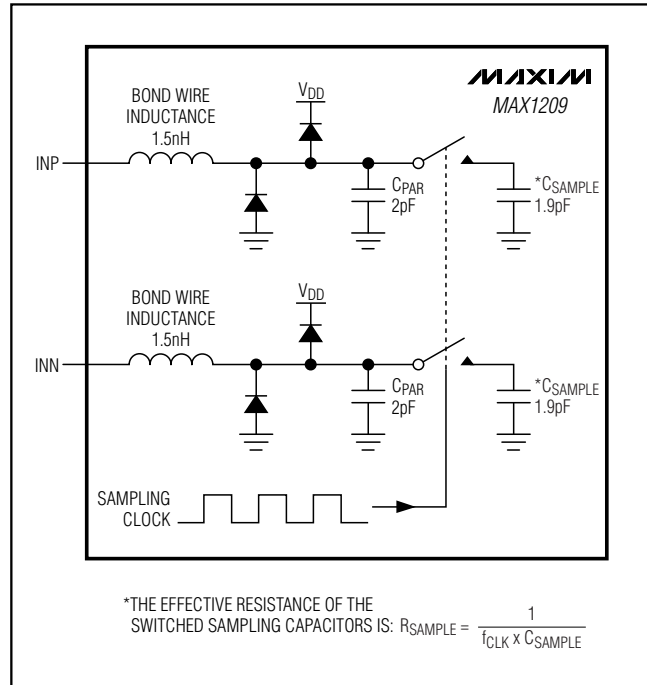
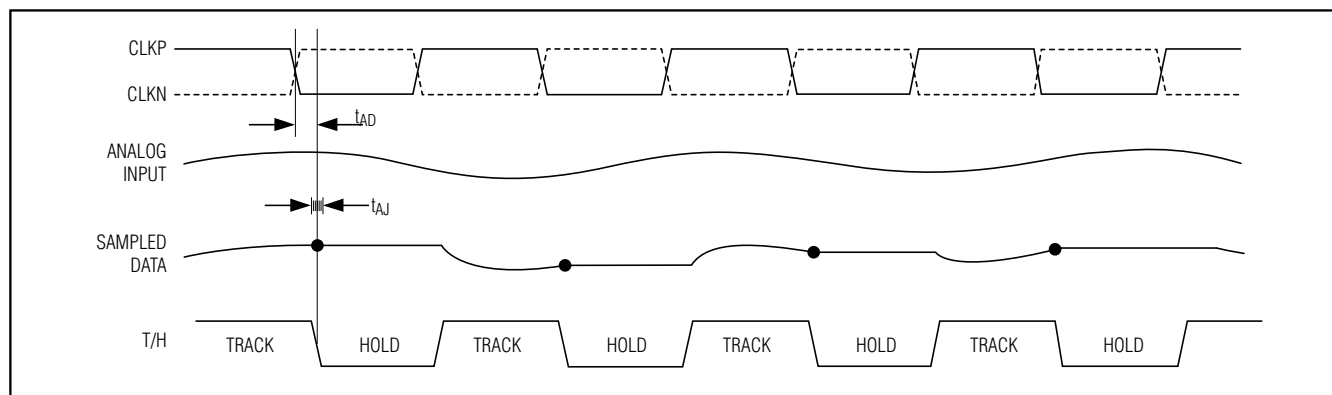

Figure 3. Simplified Input Track-and-Hold Circuit
Figure 4. T/H Aperture Timing
Figure 3 displays a simplified functional diagram of the input T/H circuit. This input T/H circuit allows for high analog input frequencies of 175MHz and beyond and supports a common-mode input voltage of  $V_{DD} / 2 \pm 0.5V$ .
The MAX1209 sampling clock controls the ADC's switched-capacitor T/H architecture (Figure 3), allowing the analog input signal to be stored as charge on the sampling capacitors. These switches are closed (track) when the sampling clock is high and open (hold) when the sampling clock is low (Figure 4). The analog input signal source must be capable of providing the dynamic current necessary to charge and discharge the sampling capacitors. To avoid signal degradation, these
- INP, INN analog inputs are disconnected from the internal input amplifier (Figure 3).